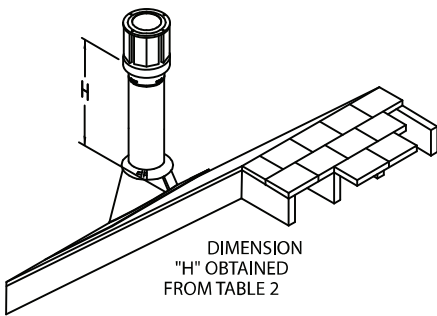

Figure 17
Step 8. Continue to add Pipe Sections until the height of the system (before adding the Cap) meets the minimum building code requirements as described in (Table 3 and Fig. 17). Note that for steep roof pitches, the vent height must be increased. In high wind conditions, nearby trees,